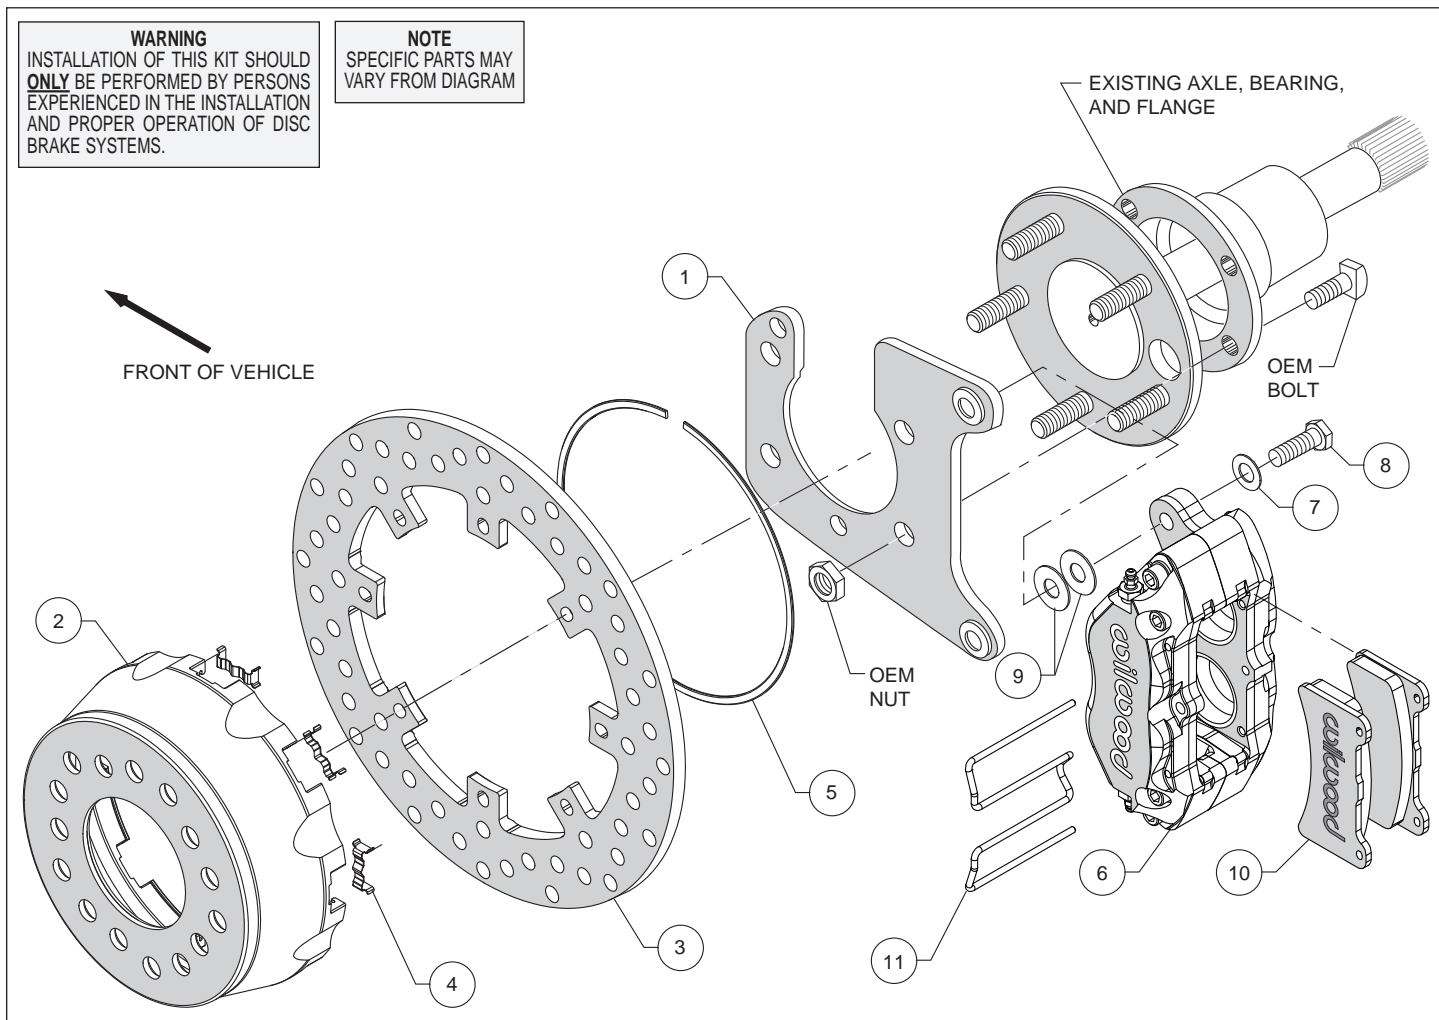
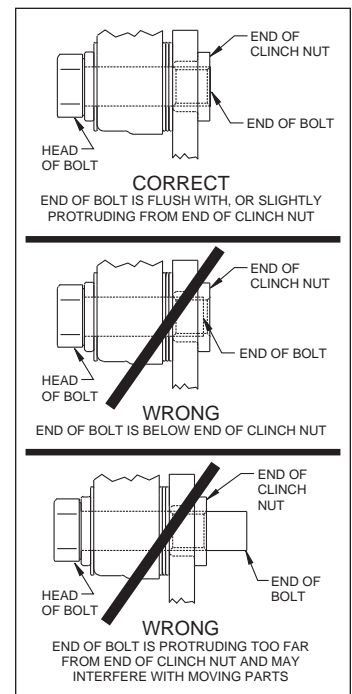

Figure 1. Typical Installation Configuration
Figure 5. Clinch Nut Engagement Diagram
Assembly Instructions (numbers in parenthesis refer to the parts list and Figure 1 on the preceding pages): **CAUTION:** All mounting bolts must fully engage clinch nuts. Be sure to check that all bolts are either flush or protruding through flanged side of clinch nut after shimming, Figure 5.
- Install the caliper mounting bracket (1), with the slot for the axle pointing upward, to the housing flange using the OEM bolts and nuts, as shown in Figure 1 and Photo 1. Ensure that the heads of the clinch nuts are facing outboard, Photo 1. Apply red *Loctite*® 271 to the OEM bolt threads and torque to OEM specifications.
- Insert the dynamic mount wear plates (4) into the slots in the hat (2) making sure the tabs snap in place, Photo 2. Orient the rotor (3) as shown in Figure 1 and Photo 3, with the flush mount tab side facing the hat. Attach the rotor to the hat using snap ring (5) by pushing down on the rotor and installing the ring into the groove in the hat, as shown in Photo 4. Ensure that the ring is fully engaged in the groove.
- Align the correct hole pattern in the hat (2) with the axle stud pattern and slide the hat/rotor assembly onto the axle hub. **NOTE:** The hat must fit flush against the axle flange or excessive rotor run out may result. Install three lug nuts (finger tight) to keep the hat/rotor in place while continuing with the installation. **NOTE:** Some OEM and aftermarket axles come with stud sizes larger than 0.50" diameter. Verify stud size, and if necessary, have a qualified machine shop drill the hats to the correct size.
- **NOTE:** Please reference the caution statement at the beginning of the assembly instructions. Mount one caliper (6) onto the mounting bracket (1) using bolts (8) and washers (7), as shown in Figure 1. Initially place two .035" thick shims (9) on each bolt between the caliper and the bracket, Photo 5. Temporarily tighten the mounting bolts and view the rotor (3) through the top opening of caliper. The rotor should be centered in the caliper, Photo 6. If not, adjust the caliper by adding or subtracting shims between the bracket and the caliper. Always use the same amount of shims on each of the two mounting bolts. **NOTE:** The end of each bolt must be flush with or slightly protruding from the head of the clinch nut. If necessary, place spare shims between washer and caliper mounting ear to achieve the proper clinch nut engagement, as shown in Figure 5. Once the caliper alignment and clinch nut engagement are correct, remove the bolts one at a time, apply red *Loctite*® 271 to the threads, and torque to